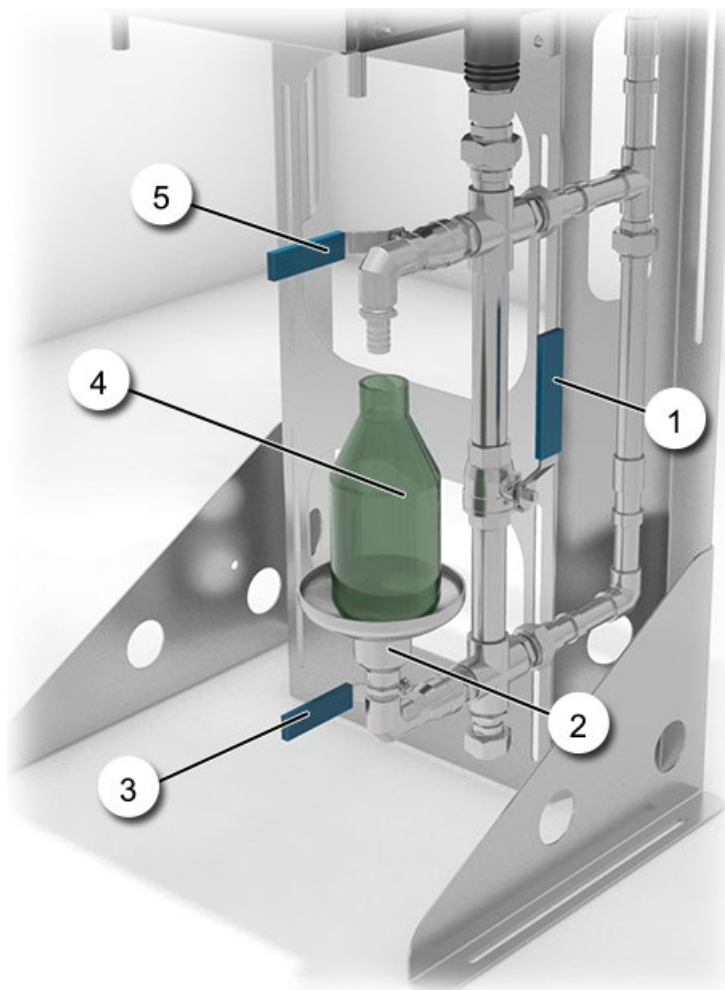

Figure 21: Sampling equipment on the OilGuard 2 Ex
2.	Open the drainage valve (Figure 21, pos. 3).
3.	Close the valve for retaining the sample (Figure 21, pos. 1).
4.	Open the sampling valve (Figure 21, pos. 5).
5.	Fill the vessel (Figure 21, pos. 4) with the sample.
6.	After a sample has been taken, close the sampling valve (Figure 21, pos. 5).
7.	Open the valve for retaining the sample (Figure 21, pos. 1) again slowly.
8.	Close the drainage valve (Figure 21, pos. 3).